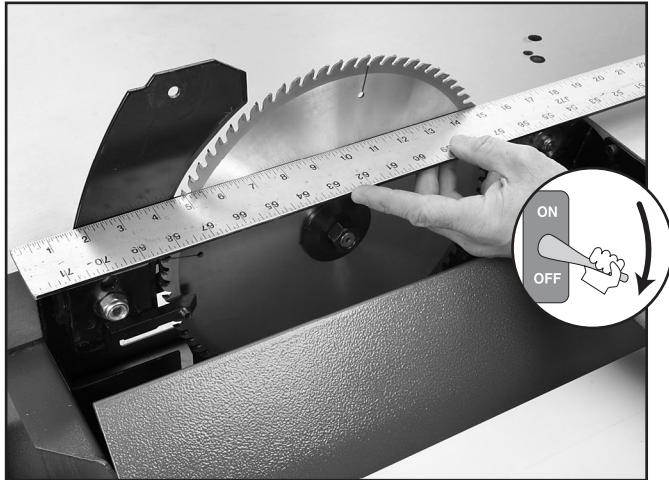

Figure 35. Checking riving knife alignment.
- Check the blade alignment on both sides of the riving knife with a straightedge, as shown in **Figure 35**.